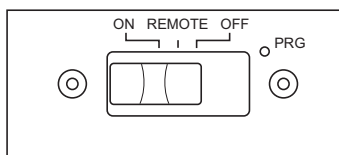

Figure 35 - Remote Selector Switch in ON Position
- Wait one minute and switch selector switch to the ON position to light burners (see Figure 35). When using in the ON position (without remote) burners will light on high. There is no adjustment to the flames without using remote.